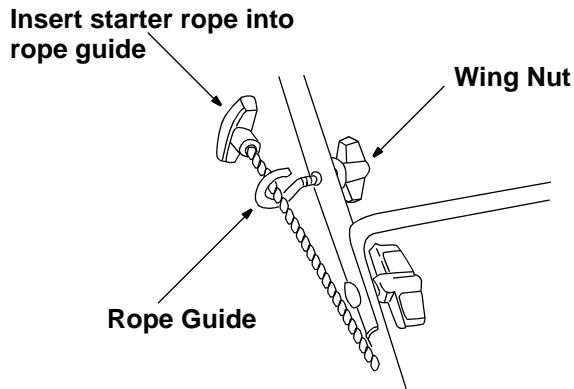

Figure 5
- The rope guide is attached to the right side of the upper handle. Loosen the wing nut which secures the rope guide. For location of the wing nut, see Figure 5.
starter rope into the rope guide. Tighten the wing nut. See Figure 5.